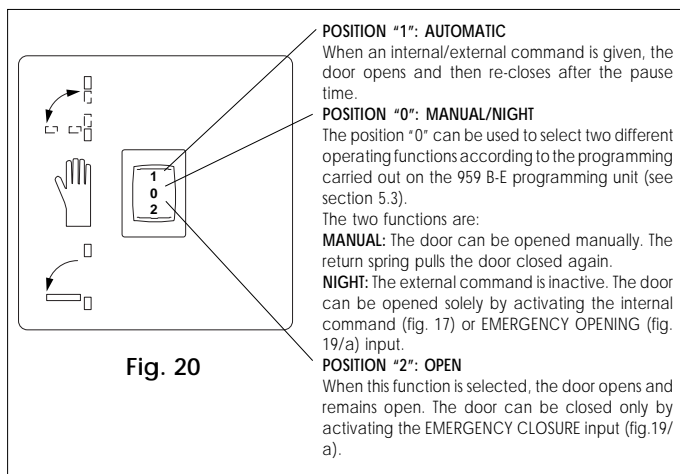

Fig. 20
⑦ Programming unit connector (14 pole)
The 959 B-E operator has a 3-position function switch (0-1-2) mounted on one of the end covers (fig. 1 - ref. 12). This cover can be fitted on the right or the left as required (fig. 8). The switch electrical connection is shown in fig. 13. The selectable operating functions are shown in fig. 20.